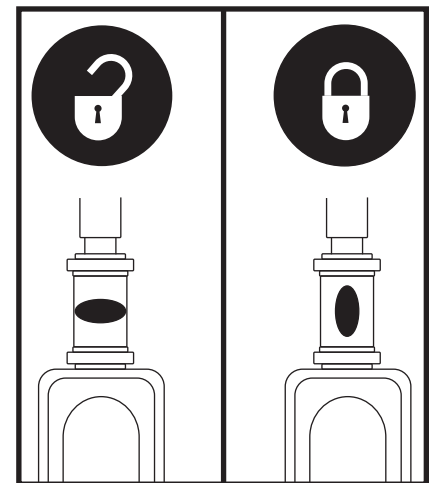

Figure 31. Tiller Lock Knob
2. Lock the tiller in the straight ahead position by pushing the tiller lock knob in and turning it clockwise 90°. See **figure 31**. The front wheel must face forward in order to lock the tiller.
1. Remove the key from the key switch and then lock the tiller in the straight ahead position by pushing the tiller lock knob in and turning it clockwise 90°. See **figure 31**. The front wheel must face forward in order to lock the tiller.
6. Unlock the tiller by turning the tiller lock knob 90° counterclockwise. **See figure 31.**